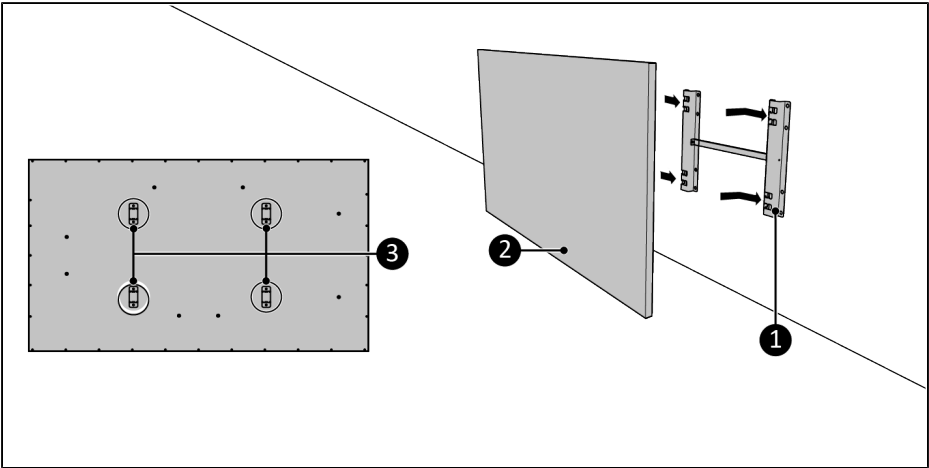

Figure 33.
5. Place the device brackets (Figure 33, pos. 3) over the wall bracket (Figure 33, pos. 1).
6. Slide the device (Figure 33, pos. 2) into the openings of the wall bracket (Figure 33, pos. 1).